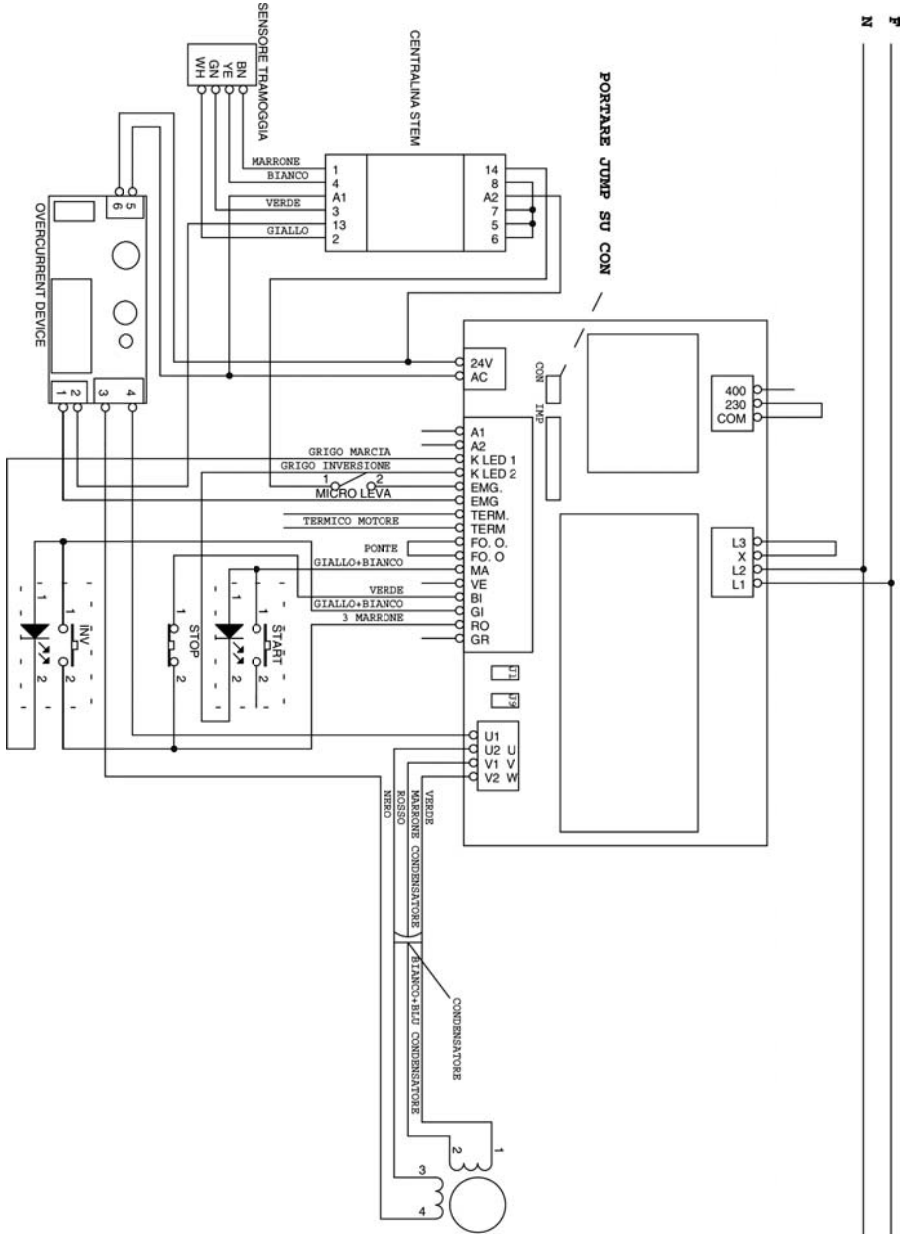

Fig. 2.4.1
2.4.1 Wiring diagram single-phase (Fig. 2.4.1)
When installing the appliance bear in mind that amp space must be left around the appliance. Refer to the dimensions given in Fig. 2.4.1. This space allows you to work freely with the appliance and allows easy access when servicing or repairing it.